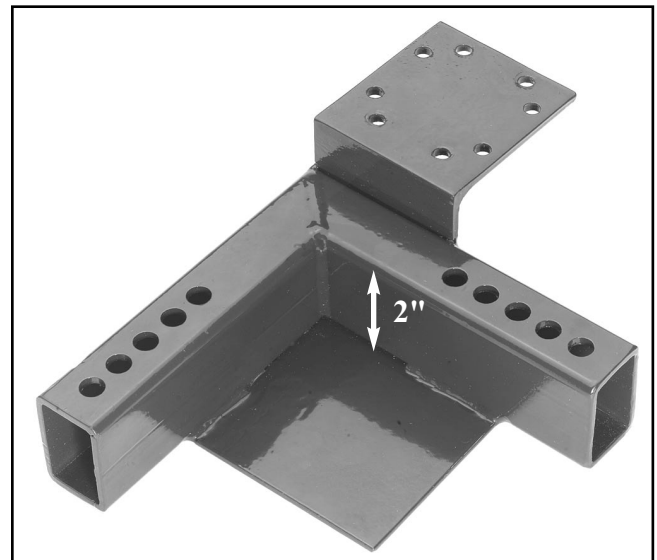

Figure 1. Corner bracket.
1. Measure the footprint of the machine to be mounted on the base, including anything which might protrude from the base within a 2" high band around the base of the machine. The base of the machine will sit on four corner pads which are bounded by 2" rectangular tubing. Therefore, anything extending from the base within that band may interfere with the base. See **Figure 1**.